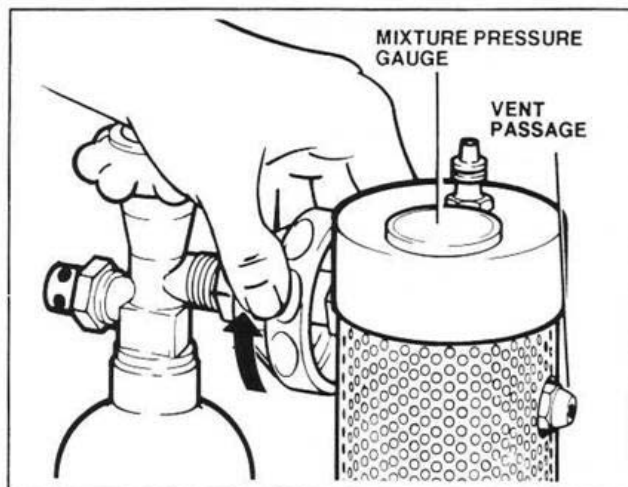
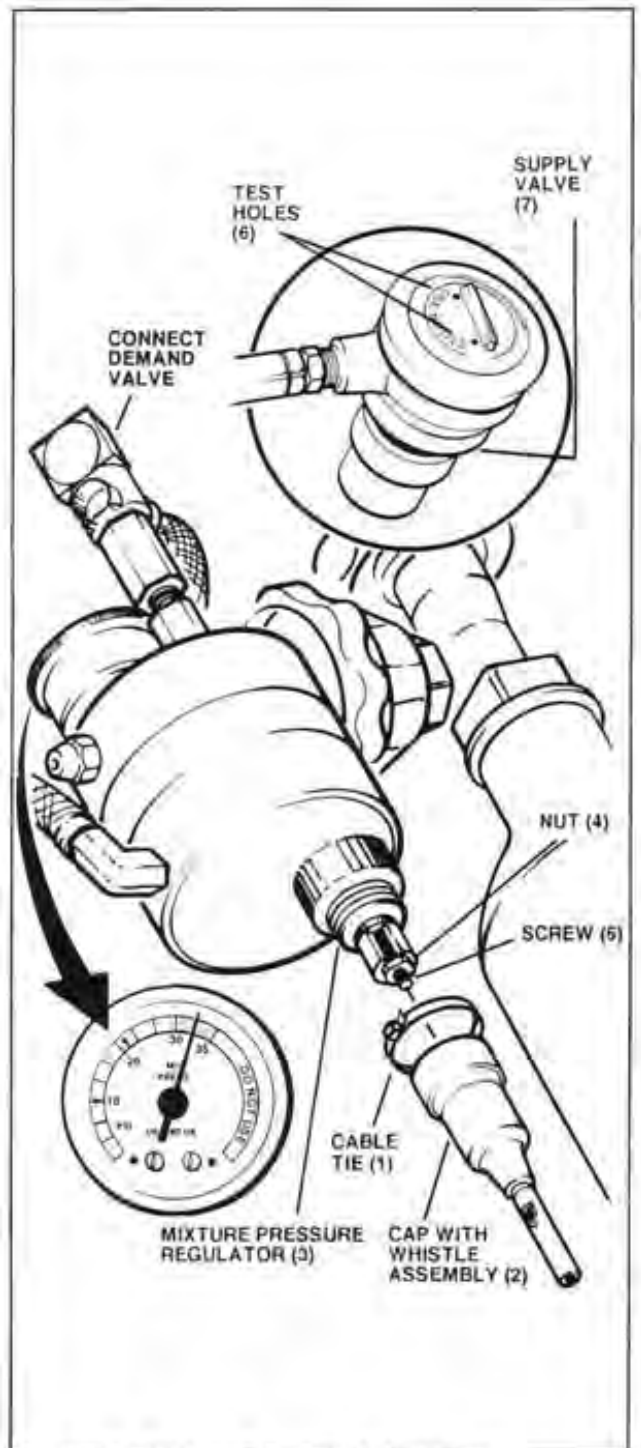

Figure 4. Attaching the Cylinder.
Figure 15. Mixture Pressure Adjustment.
4. Attach the nitrous oxide cylinder to the mixer assembly by turning the hand-wheel clockwise until it is "hand-tight" as shown in Figure 4.
To adjust the mixture pressure, refer to Figure 15 and:
2. (Fig.15) Carefully remove the two red end caps (not shown) on the mixer assembly.
4. Keeping tie and cap together, slide off the cable tie (1) and cap with whistle assembly (2) from the mixture pressure regulator (3) to expose the mixture pressure adjustment nut (4) and screw (5).
5. Attach cylinder **Section 2.1 Fig.4**. Turn on the unit **as described in Section 2.2**.
6. Use a wrench to loosen the 7/16 in. hex nut (4), approximately $\frac{1}{4}$ turn (counterclockwise). With a screwdriver, turn the adjustment screw (5) in the center of the nut clockwise to decrease the pressure and counterclockwise to increase the pressure. Set the mixture pressure at the middle of the green band on the mixture pressure gauge.